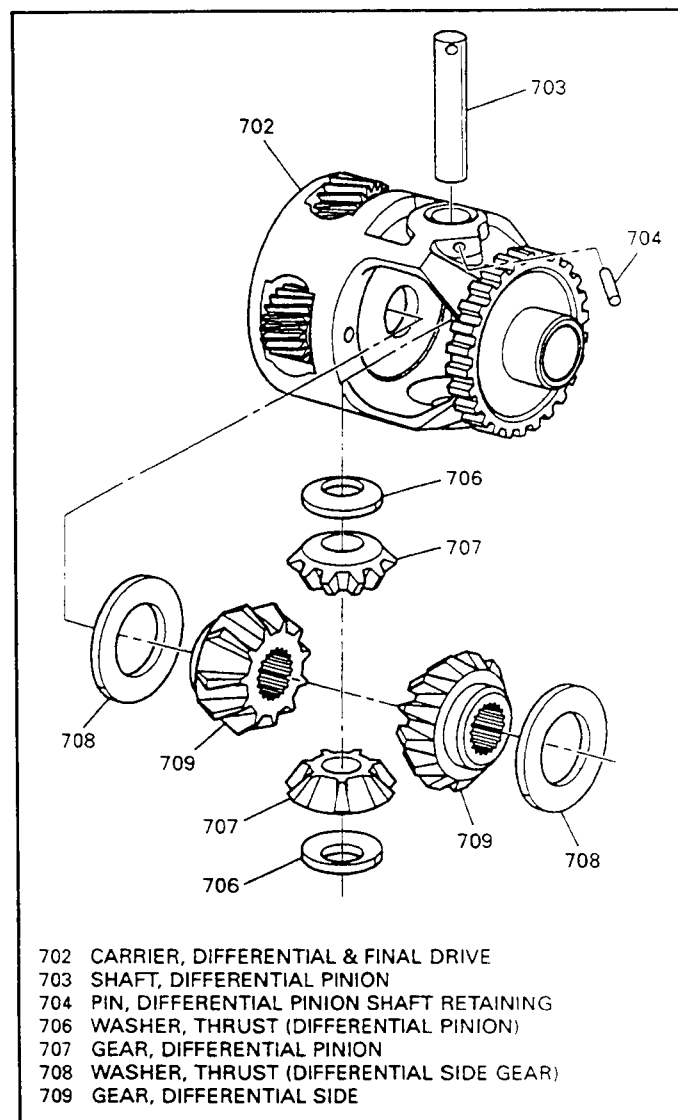

Figure 98
8. Rotate and remove the differential pinion gears (707) and thrust washers (706) using Figure 98 as a guide.
9. Remove the differential side gears (709) and thrust washers (708) as shown in Figure 98.